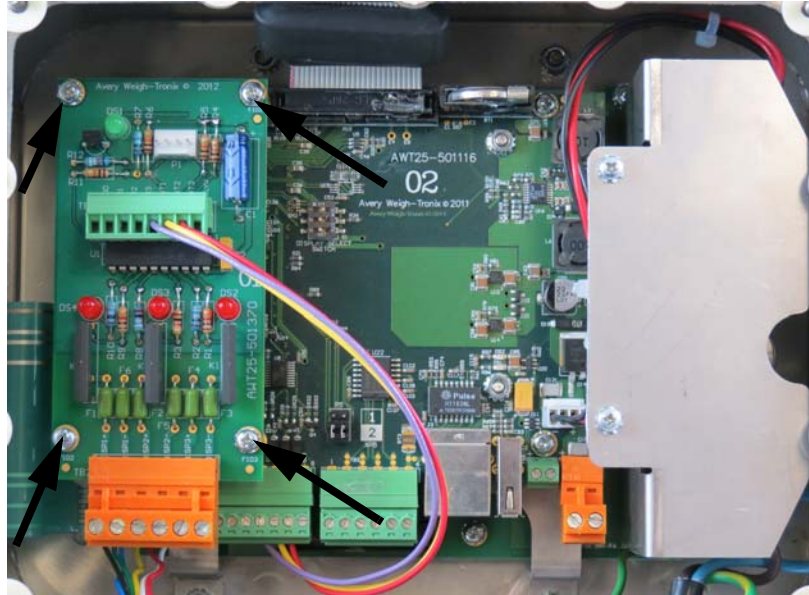

Figure 8.11 AC Relay option module on main board
1. Plug the option module into terminal J4 on the main board. See Figure 8.11. Use the included standoffs and screws to fasten the module to the main board at the four locations noted by the arrows.
These wires are shown in place in Figure 8.11.